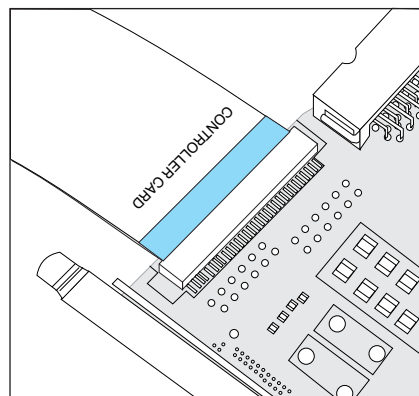
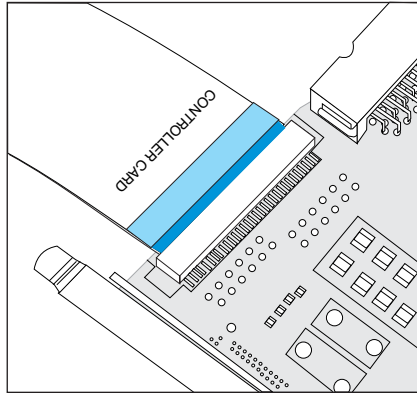

Figure 109. Service Controller card cable installed properly
Figure 110. Service Controller card cable not properly seated
- b. Before you reconnect the ribbon cable, ensure that its contacts are downward. *Carefully* install the cable to the rear of the service controller, being sure to install the cable straight in with no rocking or twisting during installation. Be sure to verify that the dark blue line on each cable connector end is not visible. This ensures that the cable is fully seated. See Figure 109 for an example of the cable when it is installed properly and Figure 110 on page 384 for an example of the cable when it is not installed properly.